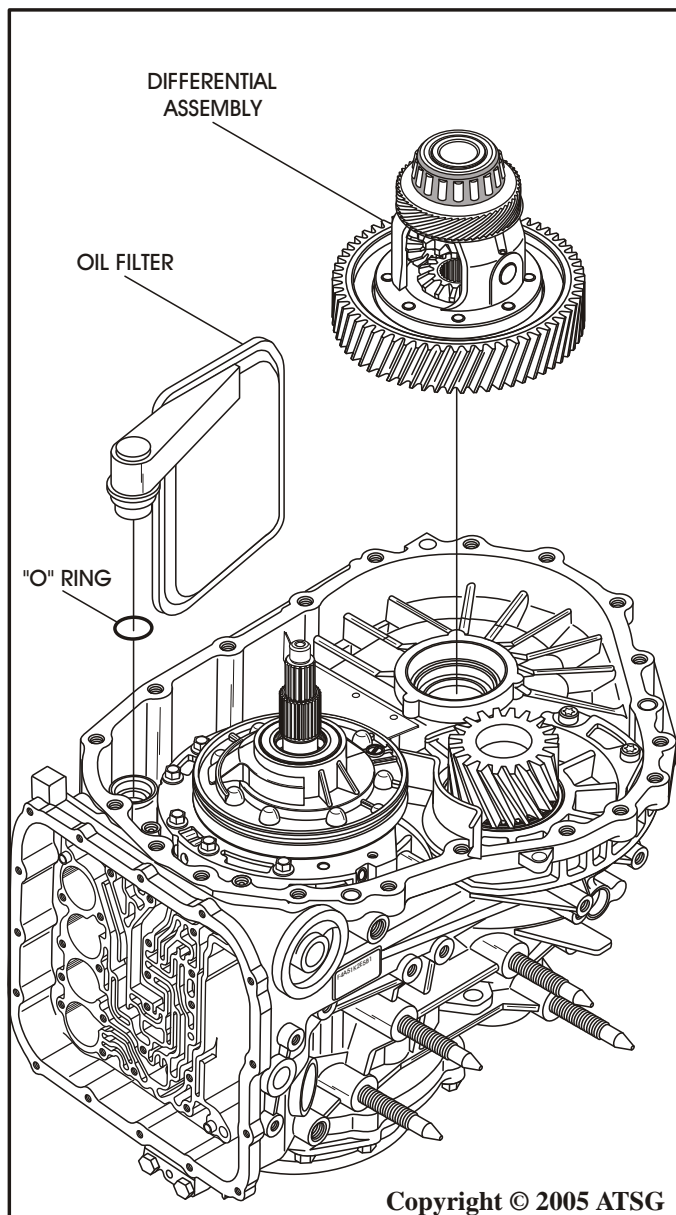

Figure 39
23. Remove and discard the oil filter and "O" ring, as shown in Figure 39.
24. Remove the differential assembly from case, as shown in Figure 39.